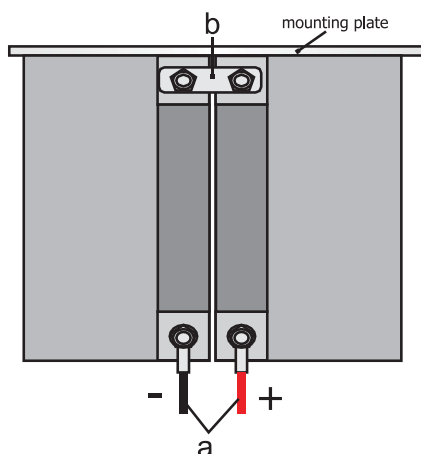

Fig. 28 Batteries top view
To connect the batteries refer to Fig. 28 below and follow the steps below:
2. Connect the batteries using the battery-pole connector (b in Fig. 28 below), the pole screw nuts and the protective covers on the poles.